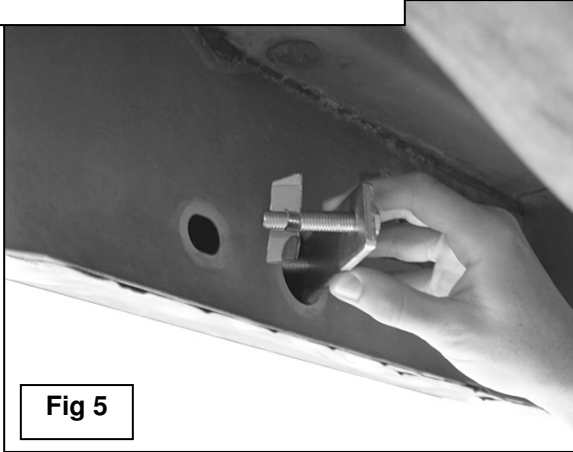
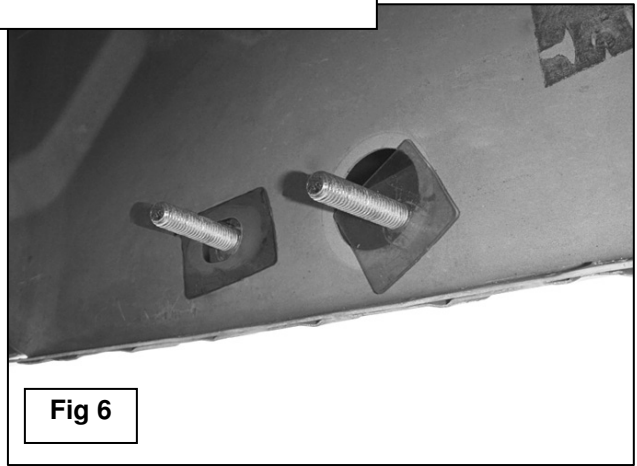

Fig 5
Fig 6
4. Align the Mounting Bracket with holes in the pinch weld. Attach the Mounting Bracket to the pinch weld using the included (2) M8 x 25MM Hex Bolts, (4) M8 Flat Washers, (2) M8 Lock Washers and (2) M8 Hex Nuts. NOTE: Insert Bolt with Flat Washer from the outside-in. Do not tighten hardware at this time.
5. Moving to the rear, use one of the Double Bolt Plates and hardware to install the Rear Bracket. Repeat steps 2-4 for driver side rear Mounting Bracket. Note for 1997-98 3-Door models only: The 3-door model uses the included (1) 10mm Narrow Bolt Plate for driver side rear Bolt Plate installation. Thread (1) M10 Plastic Retainer partially onto (1) threaded end on the Bolt Plate, (Figure 5). Insert the other end of the Bolt Plate, (without plastic retainer), into the large round hole and back out the smaller round hole on the inside of the rocker panel. Continue to thread the Plastic Retainer down the Bolt Plate until it is flush with the sheet metal. Thread (1) Plastic Retainer onto the remaining threaded end on the Bolt Plate, (Figure 6). IMPORTANT: The Plastic Retainer is designed to prevent the Bolt Plate from falling into the body cavity and to aid in mounting the Bracket.